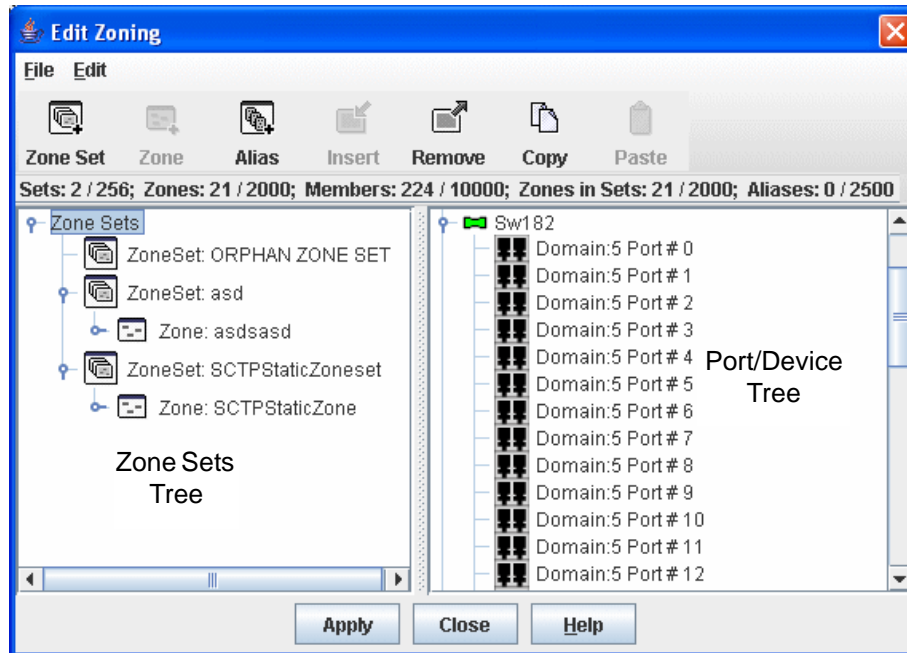

Figure 3-7. Edit Zoning Dialog
- The zoning properties/limits are displayed under the zoning toolbar, as shown in Figure 3-7.
To edit the zoning database for a particular switch, open the Zoning menu and select **Edit Zoning** to open the Edit Zoning dialog shown in Figure 3-7. Changes can only be made to inactive zone sets, which are stored in flash (non-volatile) memory and retained after resetting a switch.